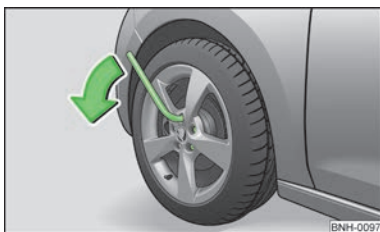

Fig. 112
- Grasp the end of the wrench and turn the bolt about **one** turn to the left » Fig. 112.